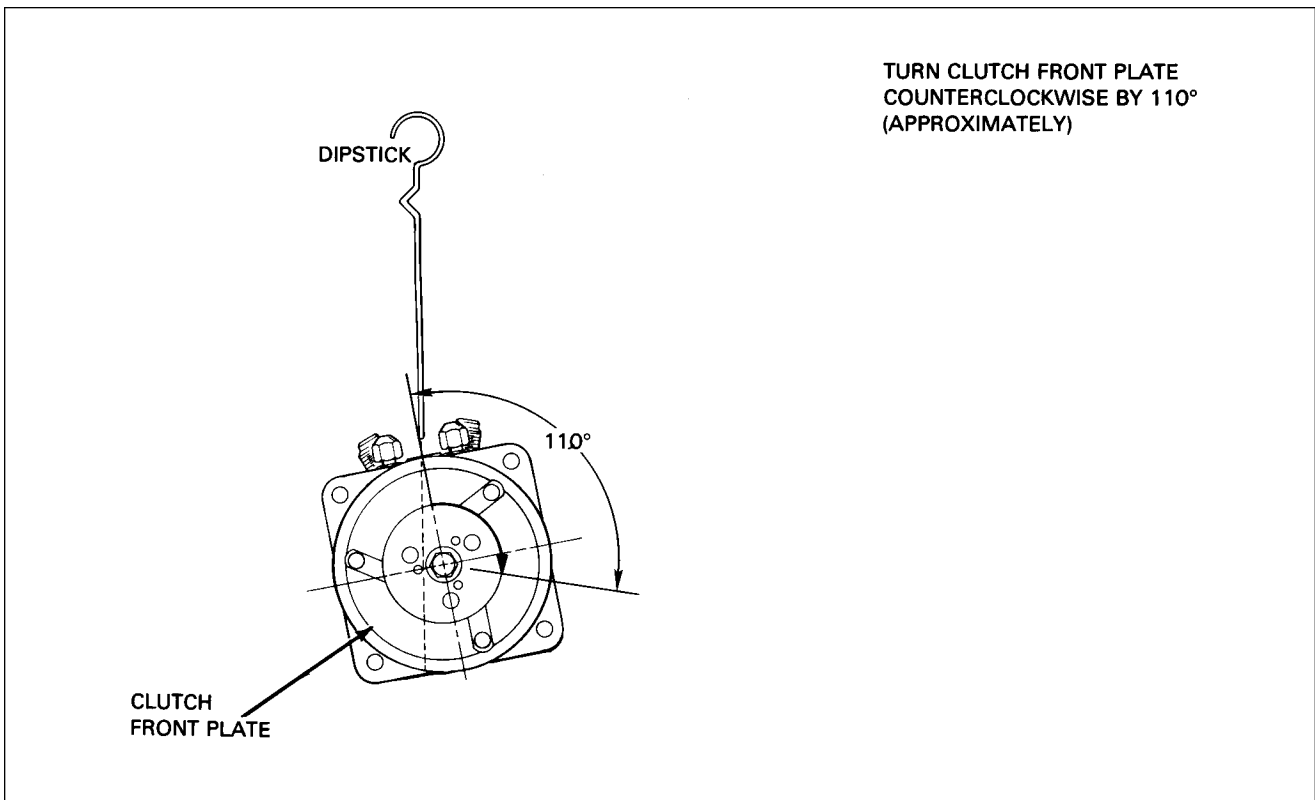

Figure 21-12. Rotation of Clutch Front Plate (Sankyo Compressor Oil Check)
5. Rotate the clutch front plate clockwise by approximately 110. (Refer to Figure 21-12.)